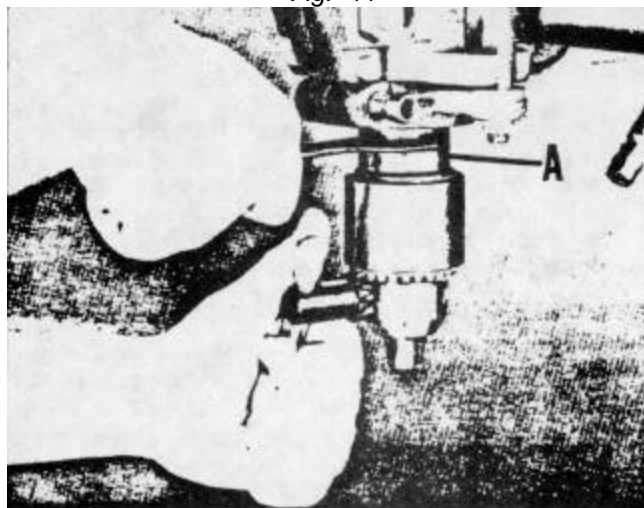

Fig. 12
When removing either the chuck or the spindle adapters, we recommend the use of the Cat. No. 15838 spanner wrench which is supplied with Key Chuck Drill Presses. Turn the locking collar of the adapter or chuck with the spanner wrench while keeping the spindle from turning by either holding belt or holding the chuck with the-chuck key in one of the pilot holes in the nose of the chuck, as shown in Fig. 12.
When attaching adapters to the spindle, it is very important to wipe clean both the spindle taper and taper hole in adapter. Then place the adapter on the spindle and tighten the locking collar (A) Fig. 12.